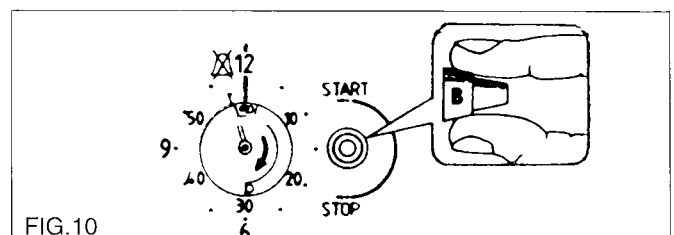

FIG.10
- iii) To set the length of cooking time, press the cooking hours button (🕒), while holding it down, depress the increase control (+) and the decrease control (-) until the cooking time is displayed, e.g. 2hrs 15mins. Fig. 10.